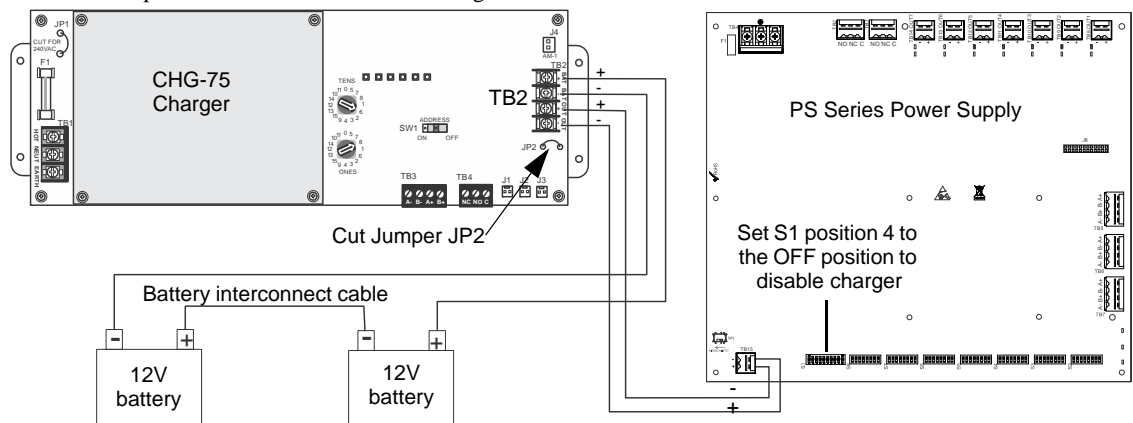

Figure 2.10 Connecting the Power Supply to a CHG-75 Charger
2. Connect the battery cables between TB15 (+ and –) on the FL-PS and the CHG-75 charger output circuit (TB2: Out+ and Out–) as shown in Figure 2.10. Be certain to observe polarity.